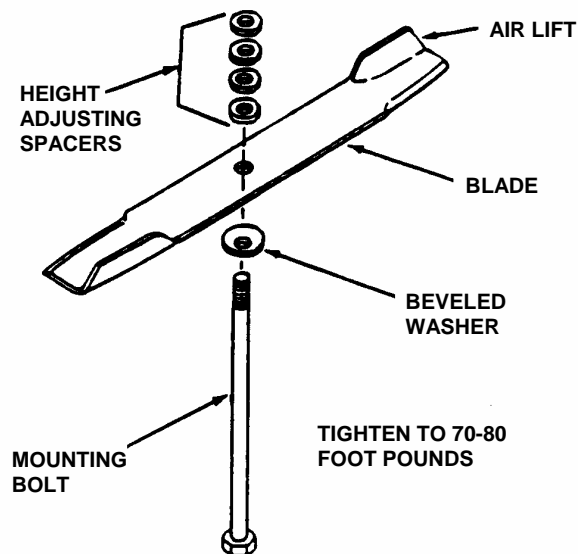

FIGURE 5.6
10. Install the Blade mounting nut on each Blade mounting bolt. See Figure 5.6.
13. Reinstall blade bolt, washer, blade and four spacers. See Figure 5.6.